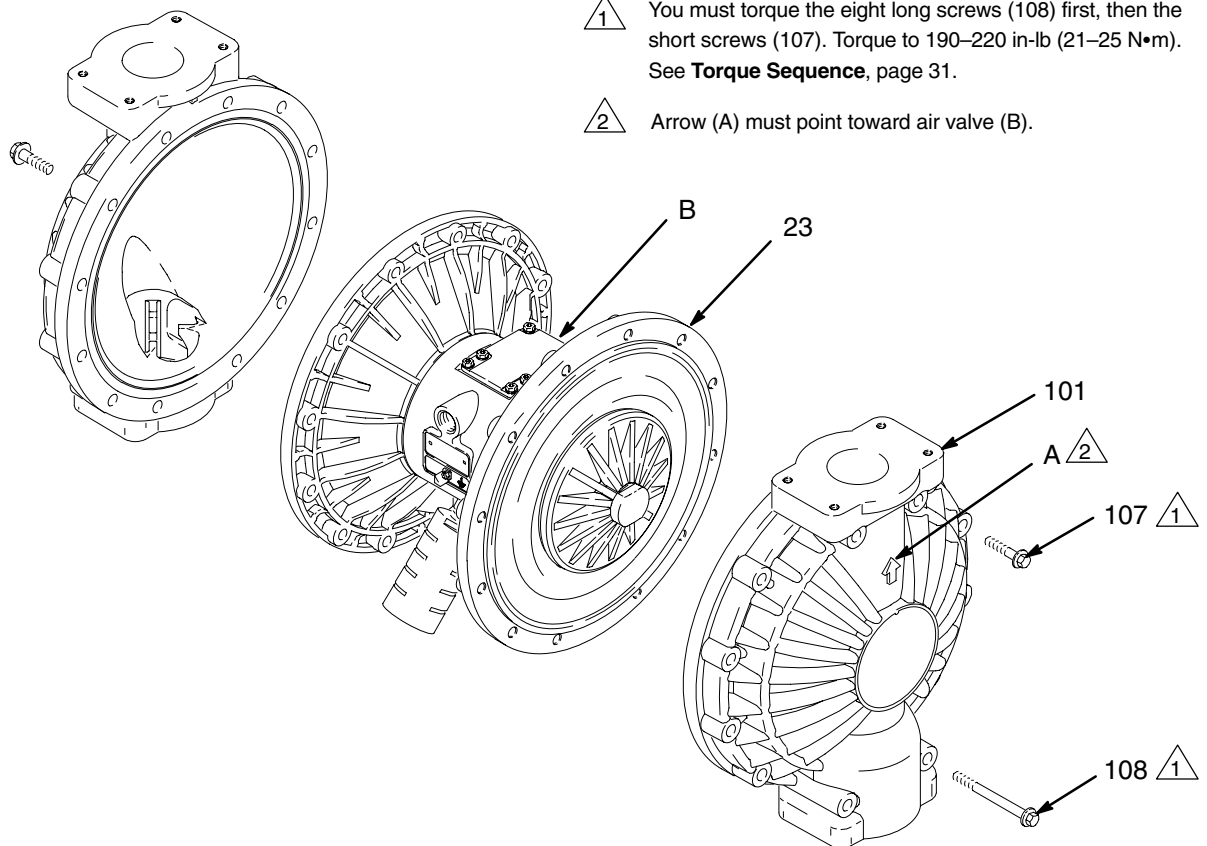

Fig. 12
3. Using 13 mm socket wrenches, remove the screws (107 and 108) holding the fluid covers (101) to the air covers (23). Pull the fluid covers (101) off the pump. See Fig. 12.
4. Apply medium-strength (blue) Loctite® or equivalent to the threads of the fluid-side plates (105). Hold one of the outer plates (105) with a wrench, and torque the other outer plate to 20 to 25 ft-lb (27 to 34 N•m) at 100 rpm maximum. **Do not over-torque.**
5. Align the fluid covers (101) and the center housing (1) so the arrows (A) on the covers face the same direction as the air valve (B). Secure the covers with the screws (107 and 108), handtight. Install the longer screws (108) in the top and bottom holes of the covers. See Fig. 12.
6. First, torque the longer screws (108) oppositely and evenly to 190–220 in-lb (21–25 N•m), using a 13 mm socket wrench. Then torque the shorter screws (107). See **Torque Sequence**, page 31.